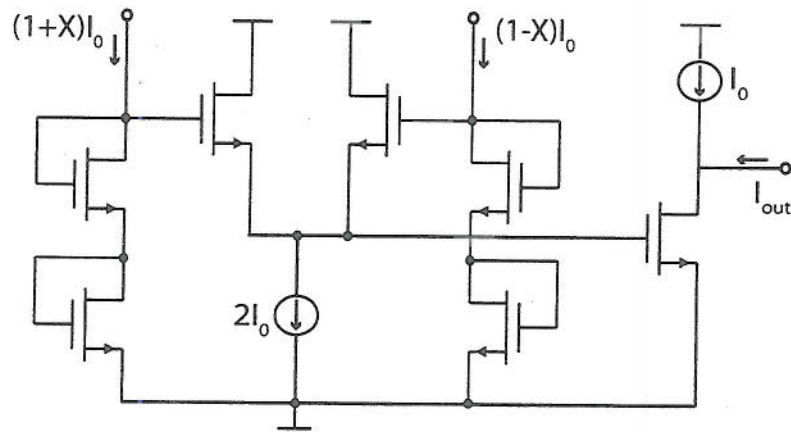

Figure 2.1
- c) Figure 2.1 shows a translinear circuit made up of NMOS transistors biased in weak inversion.
(ii) What is the function of the circuit shown in Figure 2.1 ?